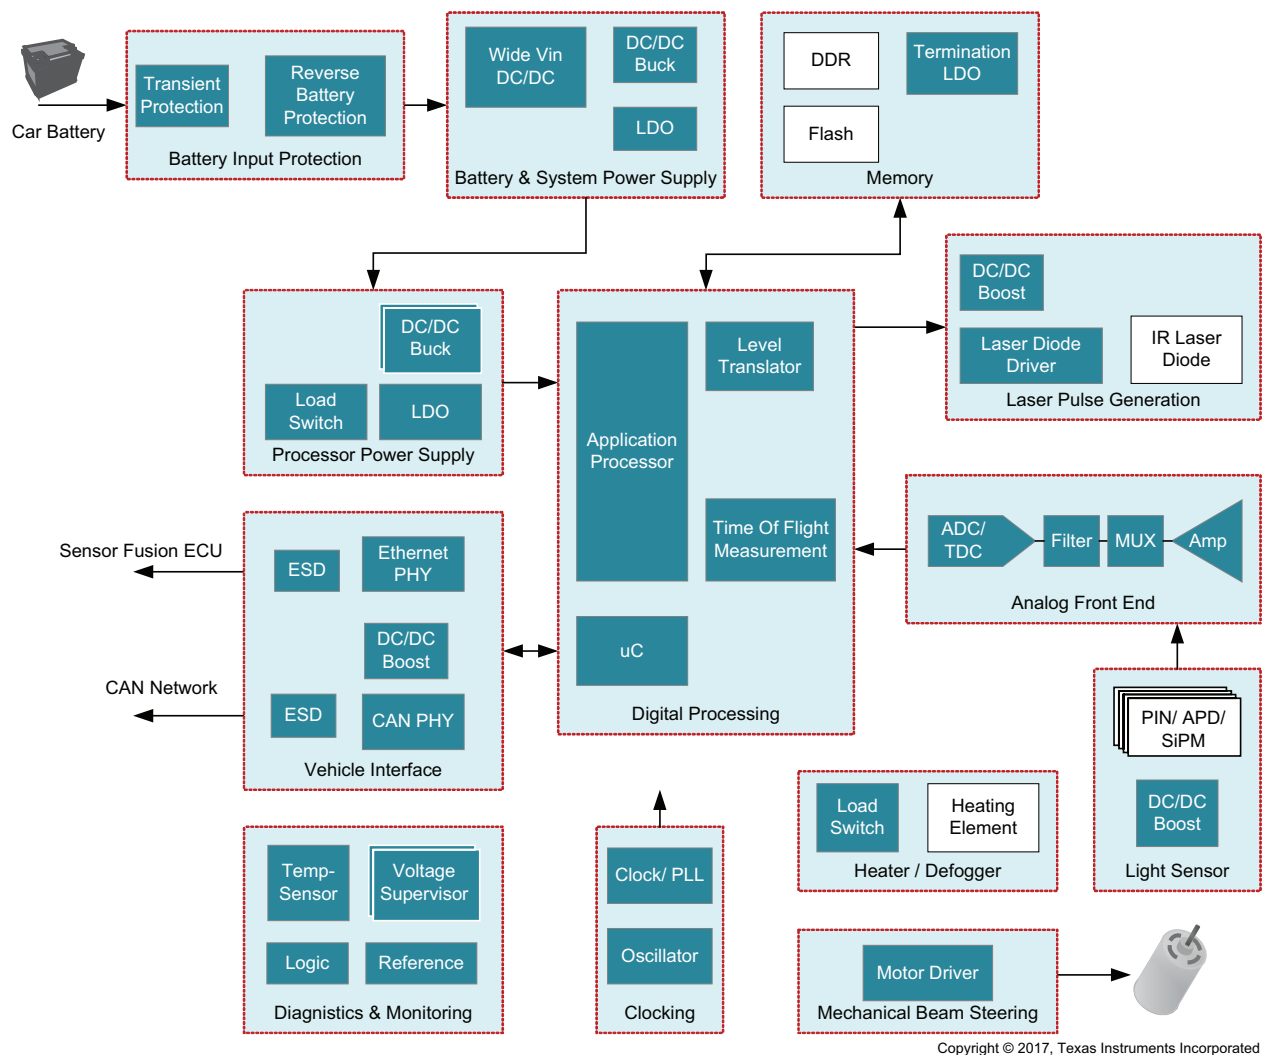

Figure 3. LIDAR subsystem showing signal chain, power, interface, clocking and monitor/diagnostics subsystem.
- Figure 3** shows the entire functional LIDAR subsystem, including the signal chain, power, interface, clocking and monitor/diagnostics subsystem. The main subsystems of the LIDAR signal chain comprise a transmitting system (Tx), a receiving system (Rx) and a custom digital-processing system to extract point-cloud information. Texas Instruments offers device options for the function blocks shown in blue.